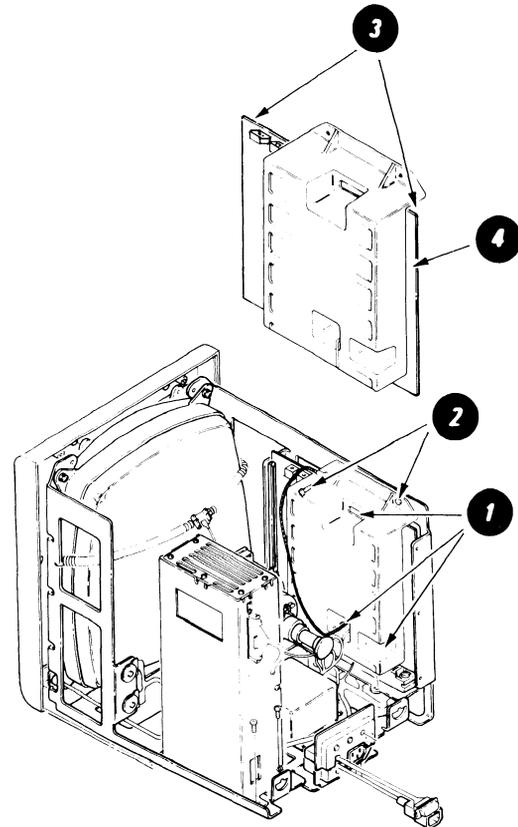

Figure 20 - Analog Card Removal
3. Disconnect the J301, J302, J501, and J502 connectors from the analog card ❶ (see Figure 20).
5. Remove the two screws ❷ that hold the analog card and ground strap to the mainframe.